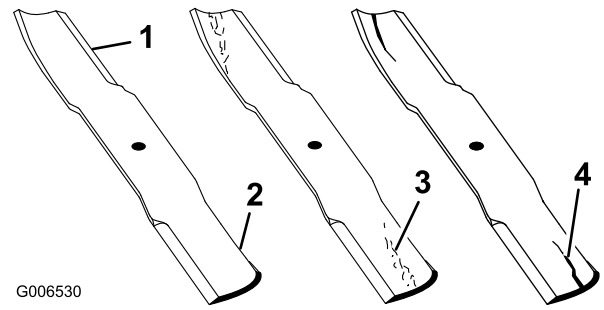

Figure 43
1. Inspect the cutting edges (Figure 43).
2. Inspect the blades, especially the curved area (Figure 43).
**Note:** If you notice any damage, wear, or a slot forming in this area (items 3 and 4 in Figure 43), immediately install a new blade.